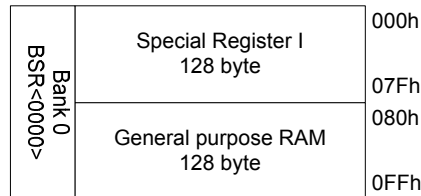

Fig 2-4 Data Memory (DM) Architecture
2.2.2. Data Memory (DM)
Data Memory (DM) is composed of Specially Register (SR) and General Purpose Register (GPR). Furthermore, it takes every 256byte as a block. 128byte Specially Register and 128 byte General Purpose Register is as in Fig 2-4.